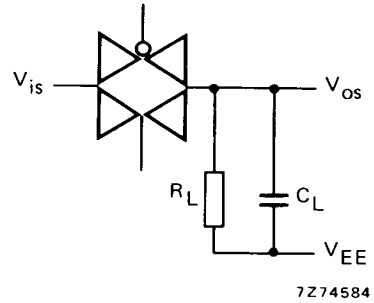

Fig. 9.
- $R_L = 10 \text{ k}\Omega$ ;  $C_L = 15 \text{ pF}$ ; channel ON;  $V_{is} = \frac{1}{2} V_{DD(p-p)}$  (sine-wave, symmetrical about  $\frac{1}{2} V_{DD}$ );  $f_{is} = 1 \text{ kHz}$ ; see Fig. 9.
- $R_L = 1 \text{ k}\Omega$ ;  $C_L = 5 \text{ pF}$ ; channel OFF;  $V_{is} = \frac{1}{2} V_{DD(p-p)}$  (sine-wave, symmetrical about  $\frac{1}{2} V_{DD}$ );  $20 \log \frac{V_{os}}{V_{is}} = -50 \text{ dB}$ ; see Fig. 9.
- $R_L = 1 \text{ k}\Omega$ ;  $C_L = 5 \text{ pF}$ ; channel ON;  $V_{is} = \frac{1}{2} V_{DD(p-p)}$  (sine-wave, symmetrical about  $\frac{1}{2} V_{DD}$ );  $20 \log \frac{V_{os}}{V_{is}} = -3 \text{ dB}$ ; see Fig. 9.